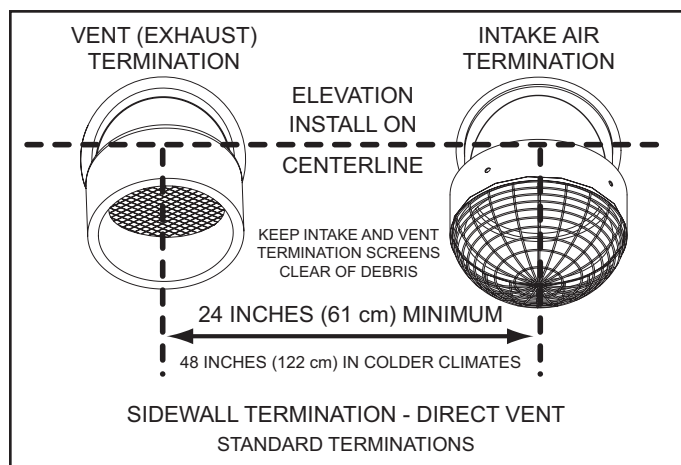

Figure 26
4. If installing both an intake air and vent termination in a Direct Vent configuration through a sidewall there must be a minimum of 24 inches (61 cm) separation, measured on vertical center line, between the intake air and vent terminations, see Figure 26.
5. If installing both intake air and vent terminations in a Direct Vent configuration through a sidewall the intake air and vent terminations must be installed at the same elevation measured on horizontal center line - see Figure 26.
However, the distance between the closest vent and intake air terminations must be a minimum of 24 inches (61 cm). In colder climates this separation should be increased to at least 48 inches (122 cm). See Figure 26.